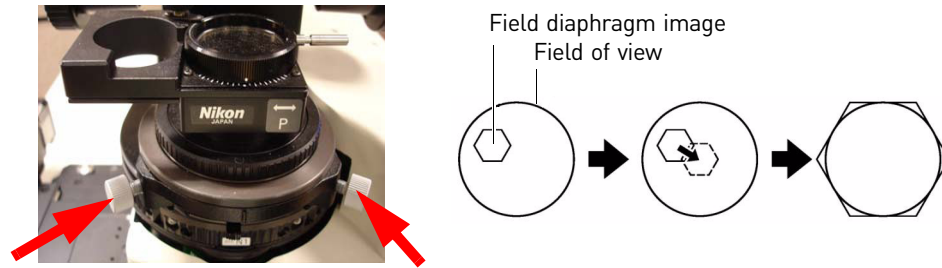

Figure 29 Condenser-centering screws and condenser alignment.
5. Turn the two condenser-centering screws to move the field diaphragm to the center of the field of view (see Figure 29).